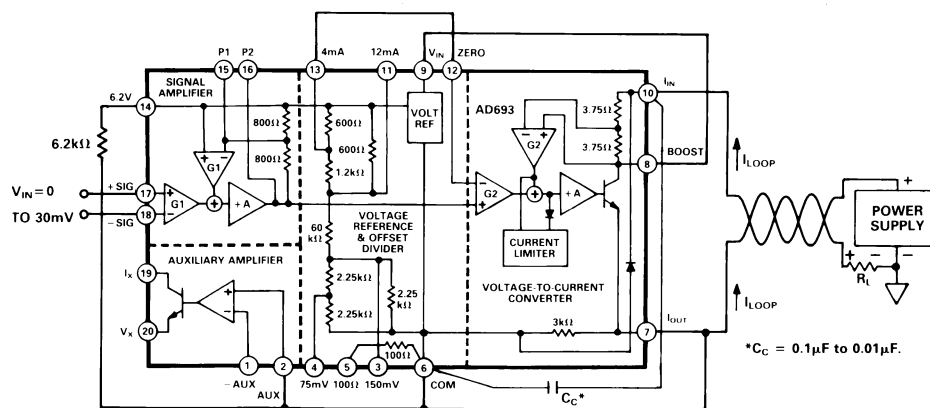

Figure 10. Minimal Connection for 0–30 mV Unipolar Input, 4–20 mA Output
- 6The operational voltage ( $V_{OP}$ ) is the voltage directly across the AD693 (Pin 10 to 6 in two-wire mode, Pin 9 to 6 in local power mode). For example,  $V_{OP} = V_S - (I_{LOOP} \times R_L)$  in two-wire mode (refer to Figure 10).
Figure 10 shows the minimal connections for basic operation: 0–30 mV input span, 4–20 mA output span in the two-wire, loop-powered mode. If not used for external excitation, the 6.2 V reference should be loaded by approximately 1 mA (6.2 k $\Omega$  to common).